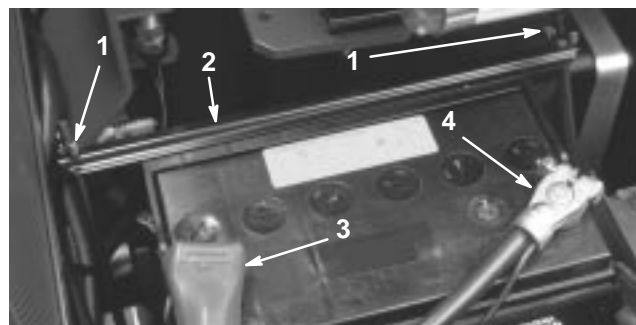

Figure 3
2. Remove two wing nuts and hold down strap that secures battery (Fig. 3). Lift battery out of chassis. Keep wing nuts and hold down strap in safe place for later use.
1. Install battery and secure with hold down strap and wing nuts (Fig. 3). Remove tape over ends of each cable.
2. Slide the red, positive battery cable (Fig. 3) onto positive battery post and tighten nut securely.
3. Slide the black, negative battery cable (Fig. 3) onto negative battery post and tighten nut securely.
4. Coat both battery connections with either Grafo 112X (skin-over) grease, Toro Part No. 505-47, petroleum jelly or light grease to prevent corrosion and **slide rubber boot over positive terminal** (Fig. 3).